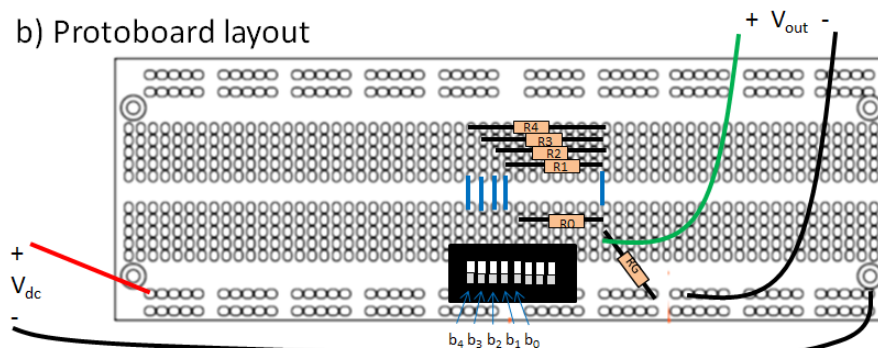

Fig. 1: Simple DAC, schematic and protoboard
The schematic and expected protoboard design are shown in Fig. 1. **Note** that the “voltage sources” shown in Figure 1a are actually implemented by switches which either connect to a dc voltage ( $V_{dc} = 1V$ ) or to ground, depending on the bit setting.
- (b) **Assemble the circuit,** as shown in Fig. 1. Note that each switch output can be treated as a voltage source whose values is equal to  $V_k = b_k \cdot V_{dc}$  (where  $b_k$  is the  $k^{\text{th}}$  bit, for  $k = 0, 1, 2, 3,$  or  $4$ ), that is, when the  $k^{\text{th}}$  bit  $b_k=0$ ,  $V_k=0$ , when  $b_k=1$ ,  $V_k = V_{dc}$ .  $V_{dc}$  is provided externally (next step). Also: **define b4 as the left-most switch, as shown in Fig. 1; ignore the numbers printed on the switch itself.**